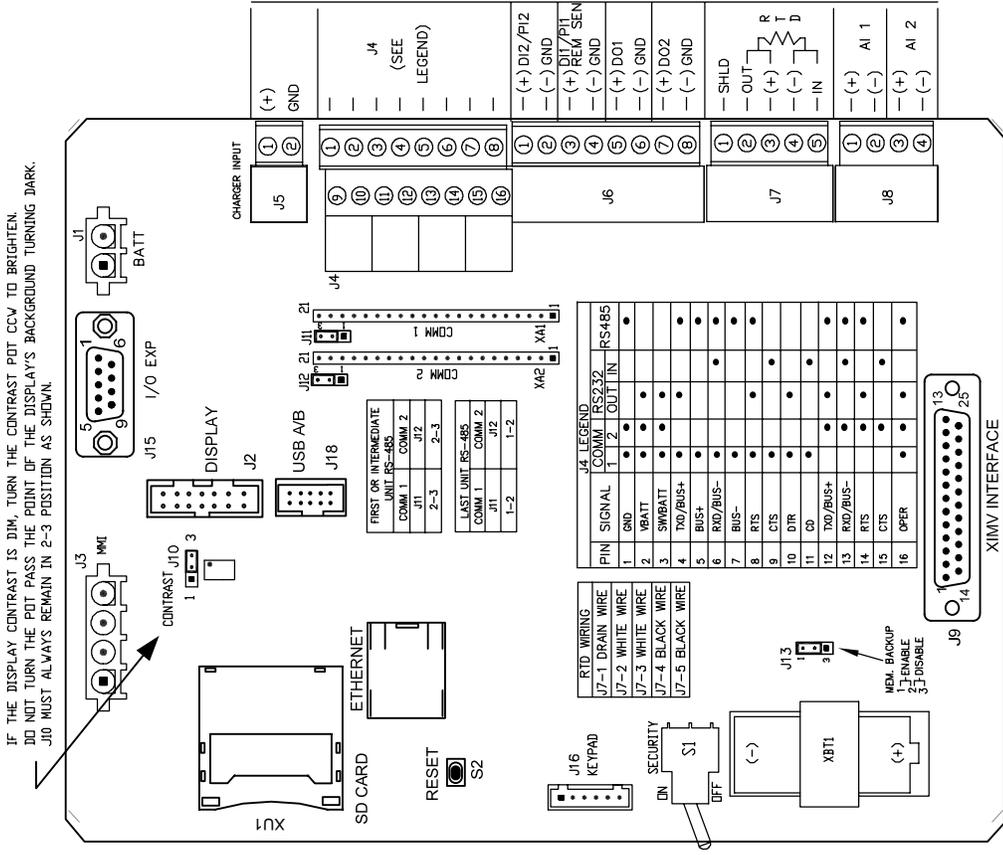
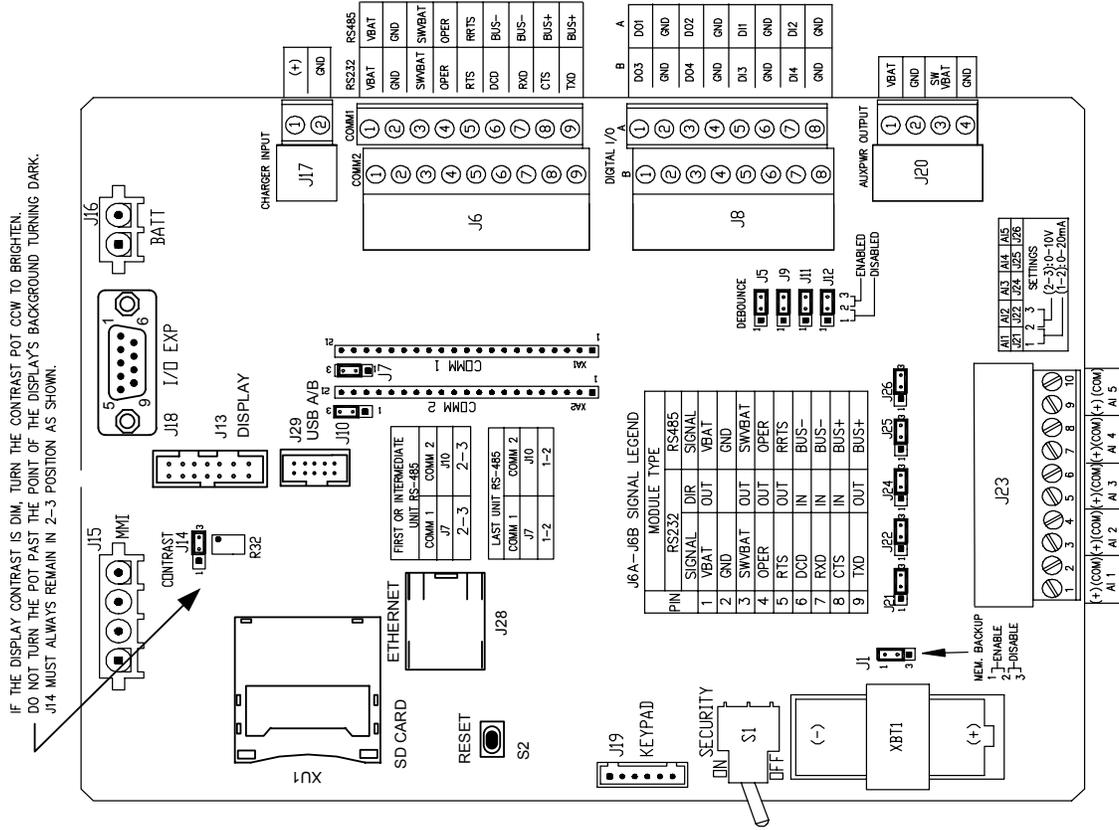

Figure 4 (XFC^{G4} Layout)
Figure 5 (XRC^{G4} Layout)
7. Install RTD and connect wiring to connector block J7 on the XFC^{G4} board. The XRC^{G4} board does not have RTD inputs. (See Figure 4)
8. Verify that *Memory Backup* is *Enabled*. This is J13 on the XFC^{G4} (see Figure 4) and J1 on the XRC^{G4} (see Figure 5)
9. Mount and connect a *fully charged* battery to J1 on the XFC^{G4} board or J16 on the XRC^{G4} board. The connectors are located in the same position on both boards. (See Figure 4 and Figure 5).
Before making connections to terminal block, remove spade lugs if attached and trim wire ends back 1/4". Remove J7 terminal block from the XFC^{G4} main electronics board. (See Figure 4)